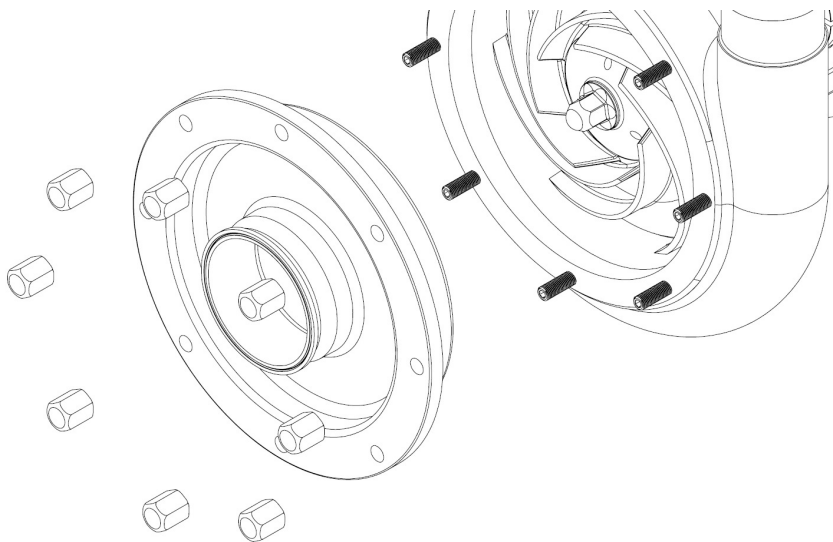

Figure 20
3. Loosen and remove cover wing nuts, cover, cover gasket and shaft guard. See figure 20.